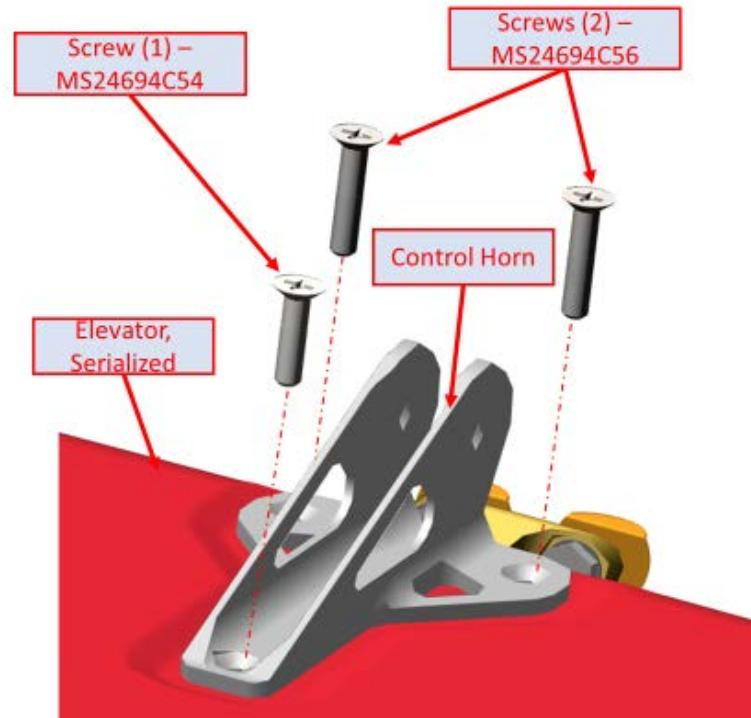

Figure 7: Control Horn Removal/Installation
4. If the elevator control horn is damaged then remove elevator control horn and discard, Figure 7.
12. Install elevator control horn (ICA001860) onto elevator using 3x screws (MS24694C54 & MS24694C56). Apply Tef-Gel to screw threads, Figure 7.